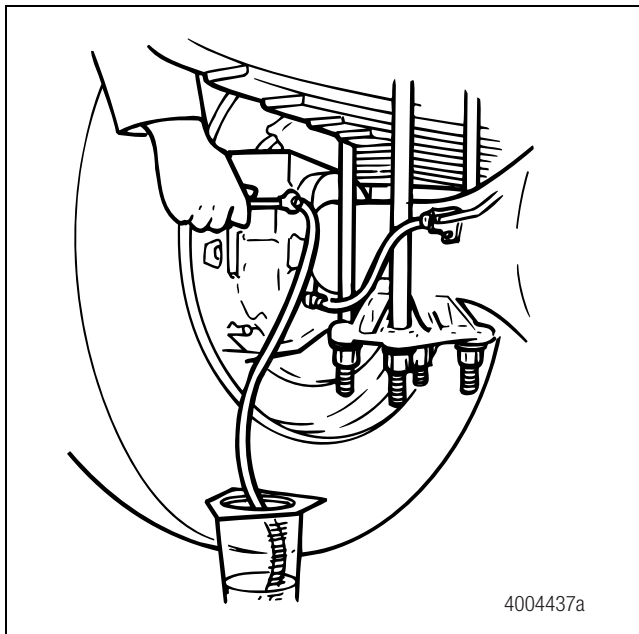

Figure 4.61
- C. Use a wrench to open the bleeder fitting screw. Figure 4.61.